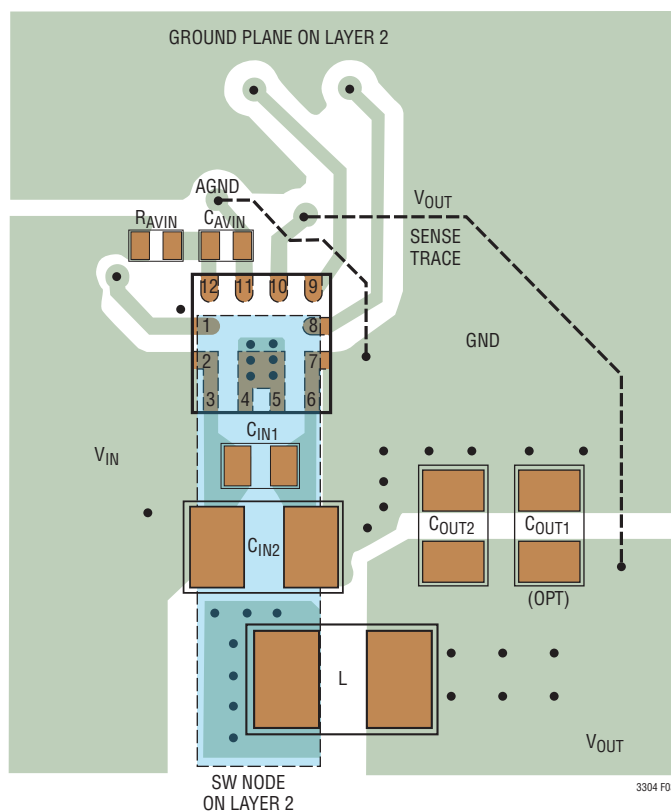

Figure 3. Recommended PCB Layout
The LTC3304's AGND pin is the ground reference for the internal analog circuitry, including the bandgap voltage reference. To achieve good load regulation connect the AGND pin to the negative terminal of the output capacitor (C_{OUT}) at the load. Any drop in the high current power ground return path is compensated. The AGND node carries very little current and, therefore, can be a minimal size trace. Place a small analog bypass 0201 or 0402 ceramic capacitor as close as possible to the LTC3304 directly on the traces leading from AV_{IN} (Pin 12) and AGND (Pin 11). All of the signal components, such as the FB resistor dividers, should be referenced to the AGND node. See the recommended PCB Layout (Figure 3) for more information.
The LTC3304 is a high performance IC designed for high efficiency and fast transient response. For optimal results carefully consider the layout of the PCB board and follow the recommendations below to ensure proper operation. See Figure 3 for a recommended PCB layout.
- See C_{IN1} and C_{IN2} placement in Figure 3, the recommended PCB layout.